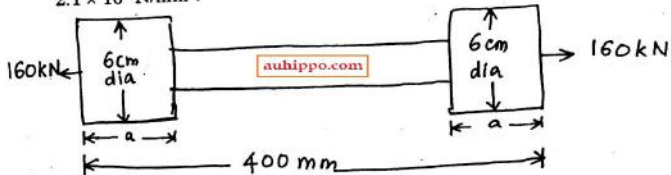

fig.Q.11(a)
11. (a) The bar shown in fig.Q.11(a) is subjected to a tensile load of 160 kN. If the stress in middle portion is limited to 150 N/mm2, determine the diameter of the middle portion. Find also the length of the middle portion if the total elongation of the bar is to be 0.2 mm. Young's modulus is  $2.1 \times 10^5$  N/mm2.